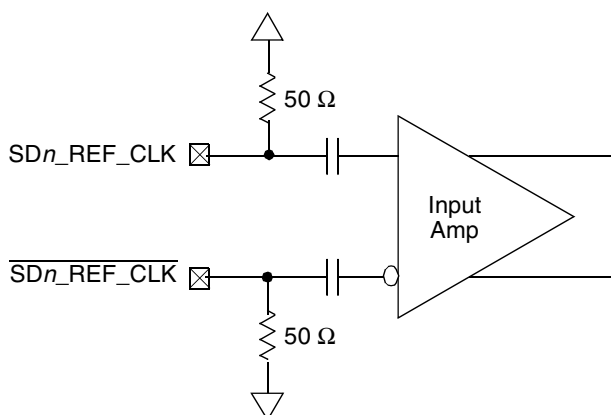

Figure 49. Receiver of SerDes Reference Clocks
Figure 49 shows a receiver reference diagram of the SerDes reference clocks.
- The SDn_REF_CLK and $\overline{\text{SDn_REF_CLK}}$ are internally AC-coupled differential inputs as shown in Figure 49. Each differential clock input (SDn_REF_CLK or $\overline{\text{SDn_REF_CLK}}$) has a 50 Ω termination to SGND_SRDSn (xcovss) followed by on-chip AC-coupling.